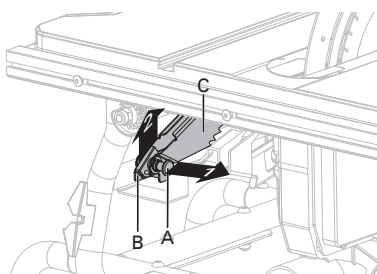

Fig. 8a
ANTI-KICKBACK PAWLS AND BLADE GUARD INSTALLATION (Fig. 8a-8b)
- Pull out and hold knob (A) and push anti-kickback pawls up, remove it from the anti-backpawls storage (B) located on inside of the left side of saw. (Fig. 8a)
- Pull out and hold knob (A). Align slot in anti-kickback pawls (C) over the slot (D) indicated of riving knife (E). Place the spring pin (F) on the anti-kickback pawls (C) into the slot (D) indicated on the riving knife (E).
- Press anti-kickback pawls (C) down until it snaps into place and release knob (A) to insert the pin (G) into hole (H) indicated on the riving knife (E).